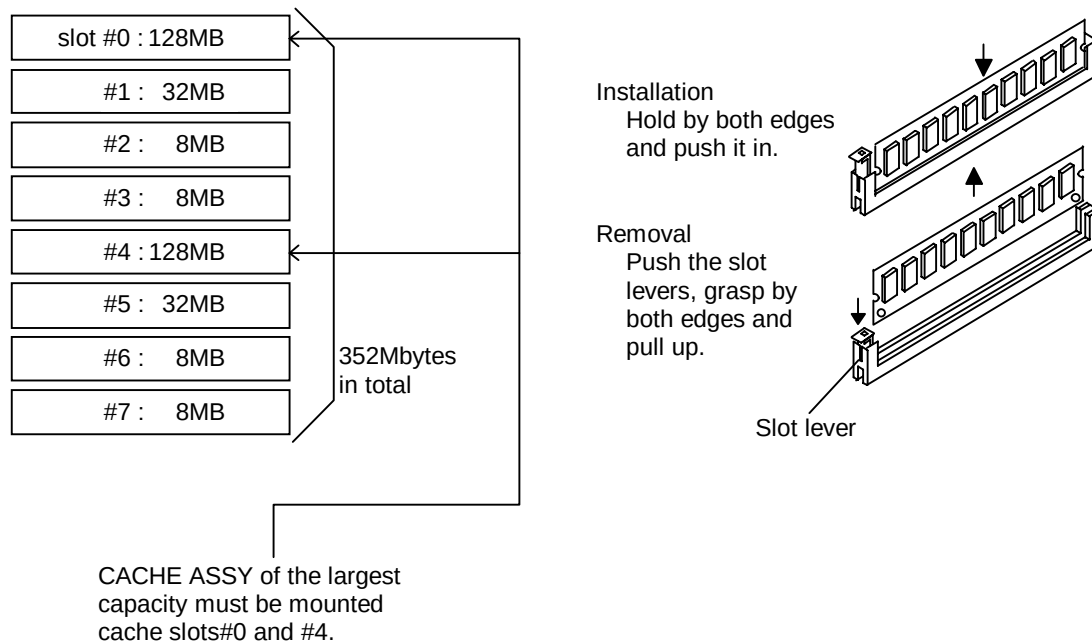

Figure 3.2.6 Installing CACHE ASSY
3.2.5 Installing CACHE ASSY (See Figure 3.2.6 and Figure 3.2.7.)